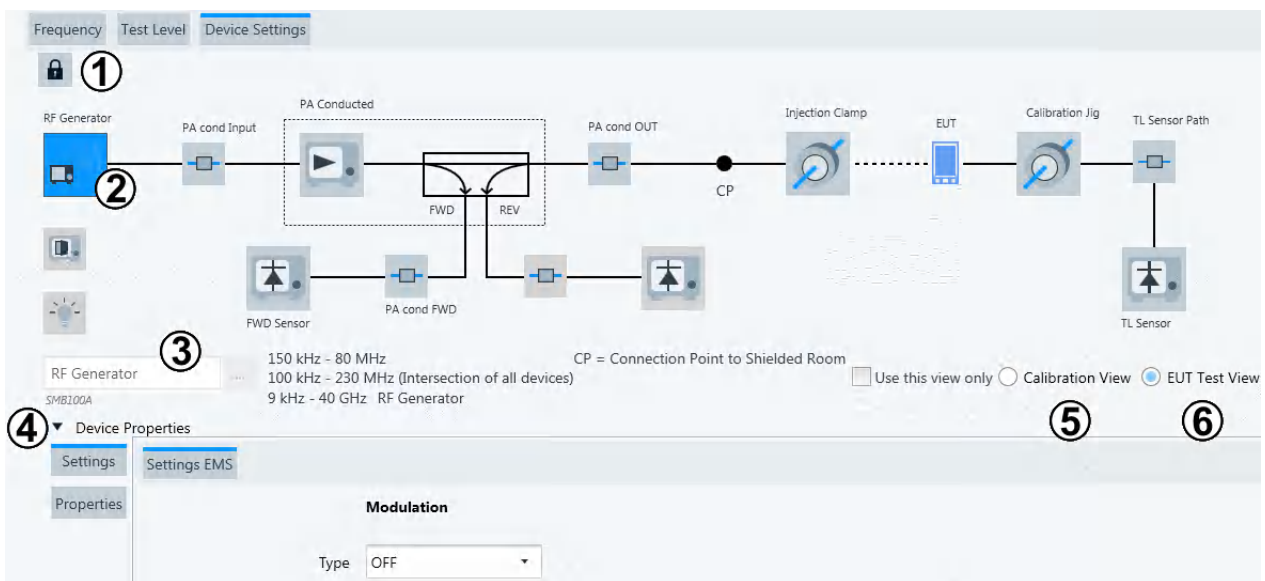

Figure 4-107: Example of a hardware setup diagram (type Bulk Current Injection) in an EMS test template
Note: Before you can proceed, first configure an EMS hardware setup and select it for one or more frequency ranges. The software then shows the hardware setup diagram (Figure 4-107) specified in this hardware setup.
To get access to the properties or settings of a device or signal path, click its icon in the hardware setup diagram, for example the generator icon (labeled (2) in Figure 4-107).
This field, labeled (3) in Figure 4-107, displays the name of the device selected (highlighted) in the hardware setup diagram.
Click the "Calibration View" button, labeled (5) in Figure 4-107, to access the calibration version of the selected hardware setup diagram.
Click the "EUT Test View" button, labeled (6) in Figure 4-107, to access the EUT test version of the selected hardware setup diagram.
Specifies the properties of the lab instrument that is selected in the hardware setup diagram. In Figure 4-107, the selected item is the device icon (2) that is highlighted in blue.